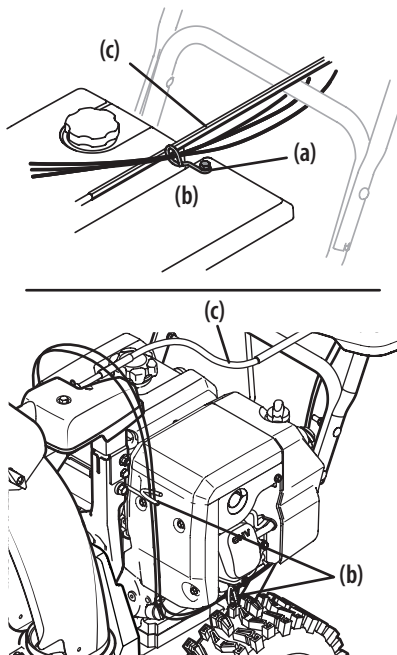

Figure 2-46
Chute control cables are routed through a single wire guide (a) on top of the engine and/or through two wire guides (b) located on the left side of the unit. See Figure 2-46.
- Units with Top Mounted Wire Guide (a) - Check that all cables are properly routed through cable guide on top of engine. See Figure 2-46.
- Units with Side Mounted Wire Guides (b) - Check that all cables are properly routed through the wire guide below the left side of the engine and the wire guide below the chute control head. See Figure 2-46.